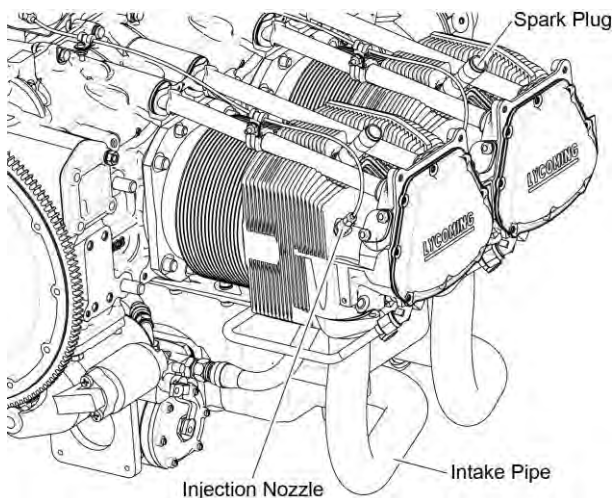

Figure 1
- G. Install all Bolts A and B with plain washers and new lock washers (Figure 1). Torque the hardware per the latest revision of the *Service Table of Limits - SSP-1776*.
- Remove the clamps that attach the fuel line to the shroud tube, disconnect the fuel line from the injection nozzle (Figure 1), remove the injection nozzle from the cylinder, and reconnect the removed injection nozzle to the fuel line.